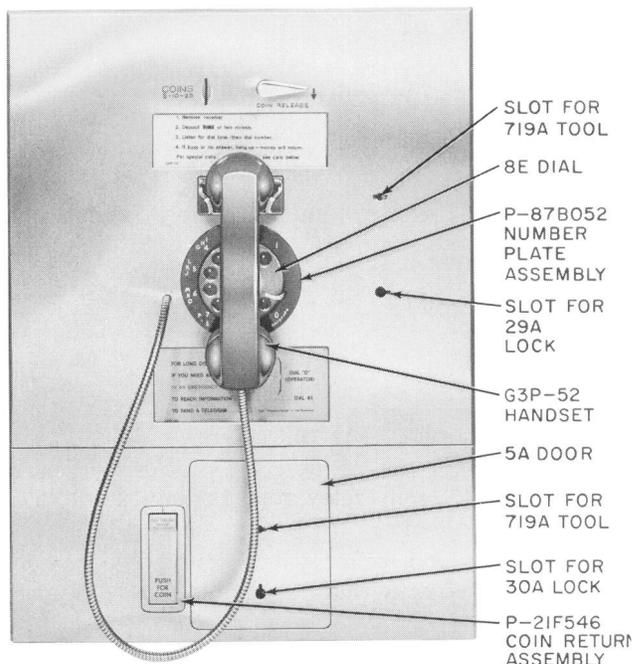

Fig. 1—2A1 Coin Telephone
1.02 The 2A1 coin telephone (Fig. 1) and the 2A2 coin telephone (Fig. 2) are similar except that the 2A1 has a rotary dial while the 2A2 has a 12-button TOUCH-TONE® dial.